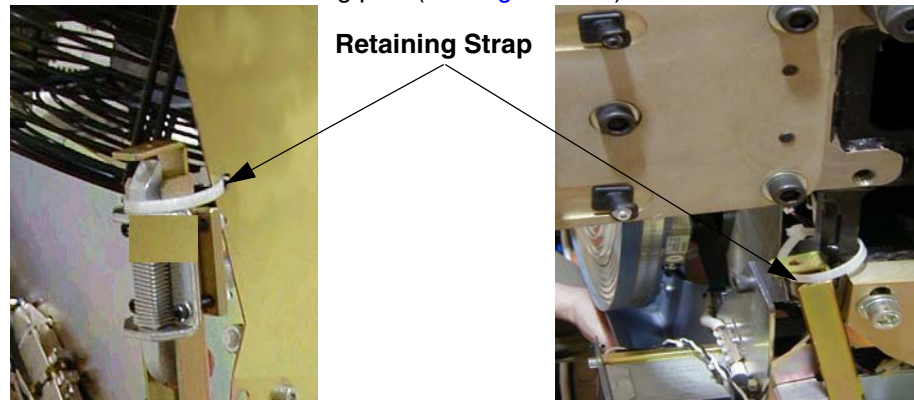

Figure A-20 Service position of upper and lower cantrell brackets.
- a.) Remove the upper cantrell brackets from the service position and rotate them into position over their associated retaining pins (see Figure A-20).
- c.) Remove the lower cantrell brackets from the service position (see Figure A-20), and rotate them into position over their associated retaining pins. Press down firmly on the bracket and snap it into place (see Figure A-22).